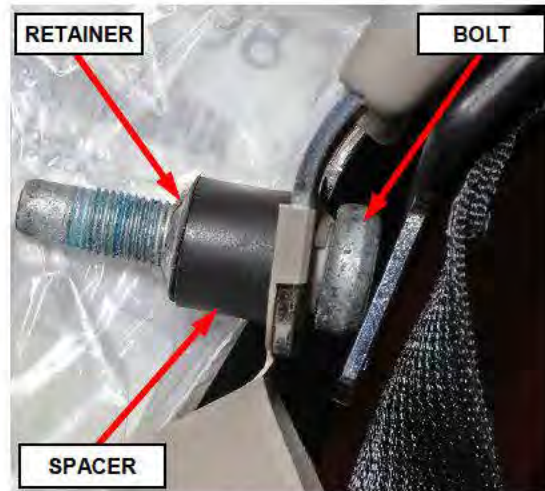

Figure 40 – Turning Loop Bolt
56. Remove and **DISCARD** the bolt retainer and bolt from the seat belt turning loop, save the spacer washer for reuse (Figure 40).